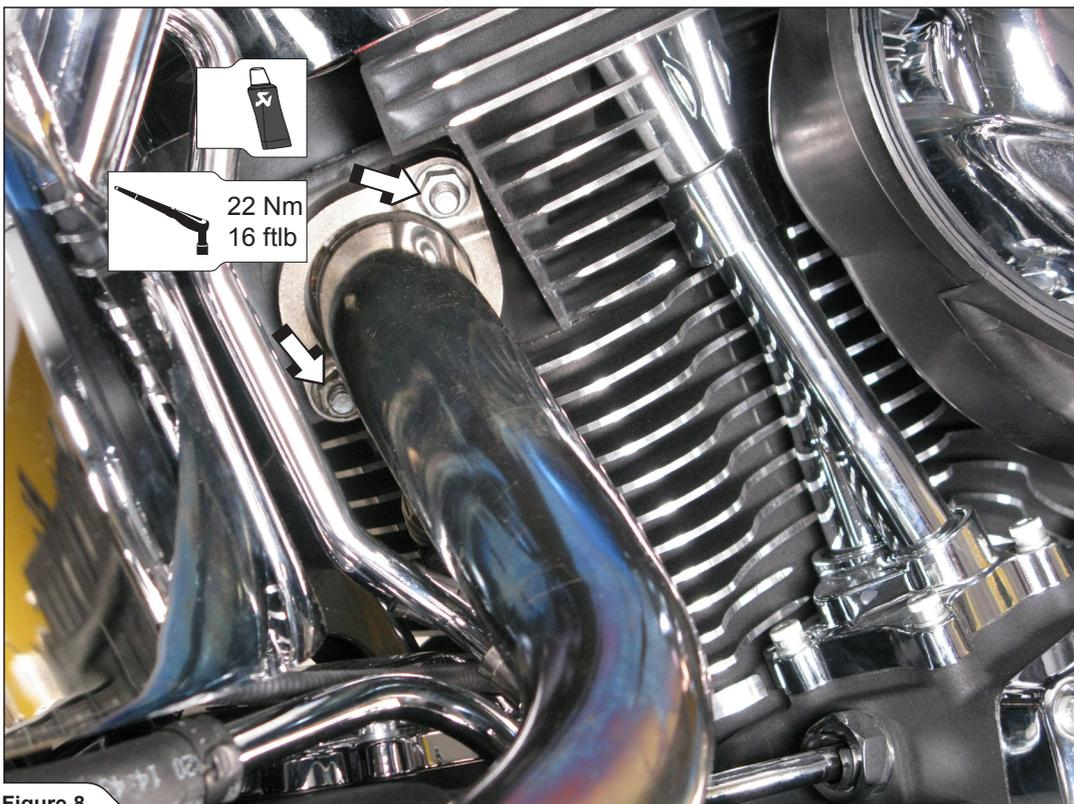

Figure 8
- Tighten the headers' flanges on both header pipes to the specified torques (**Figure 8, 9**).